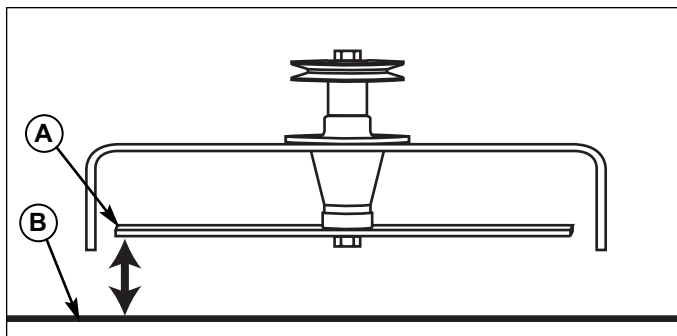

Figure 22. Measure Blade Tips to Ground
4. Measure the distance between the outside tips of each blade (A, Figure 22) and the ground (B). If there is more than 1/8" (3mm) difference between the measurements on each side, proceed to step 5. If the difference is 1/8" (3mm) or less, proceed to step 6.
7. Measure the distance from the ground to the front tip of the center blade and from the ground to the rear tip of the rear blades (Figures 22 & 24). The front tip of the front blade should be 1/8" - 1/4" (3 - 6mm) higher than the rear tips of the rear blades. If not, proceed with steps 8 - 9.